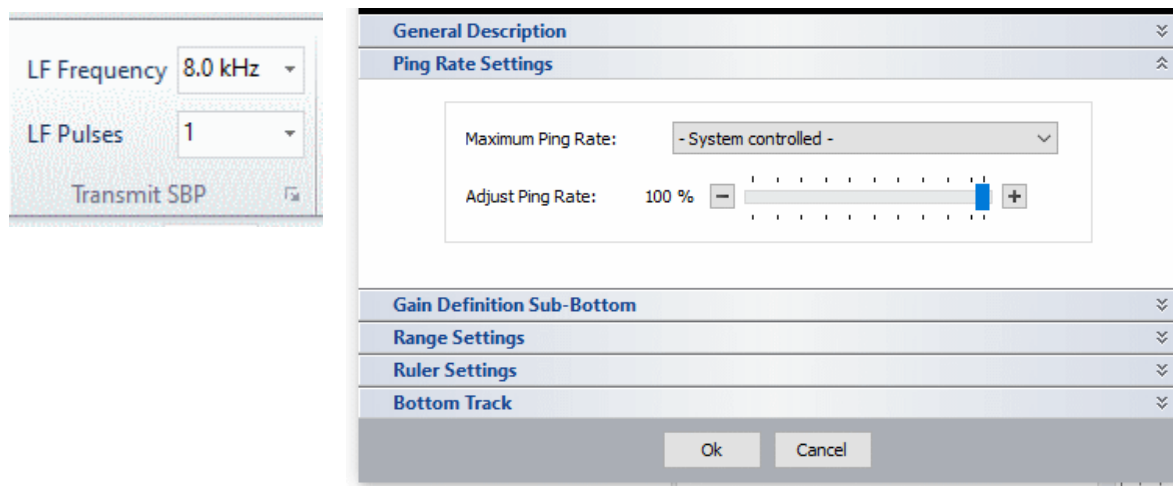

Figure 6: Setup menu, Ping Rate Settings
- **Ping rate settings:** In most cases you will allow the maximum ping rate possible by applying **-System controlled-** (Figure 6). You can reduce ping rate (for instance in shallow waters) by setting a fixed ping rate or allowing percentages of the maximum ping rate. Only LF frequency can be adjusted. Lower frequencies will achieve better penetration than higher frequencies, but at reduced resolution. Higher frequencies will achieve better resolution, but with reduced penetration. Usually, higher frequencies are used due to better efficiency and better signal to noise ratio and better resolution. A good starting point for usual survey work is 10 kHz. LF-Pulses represent the number of cycles of the LF center frequency that are transmitted. The energy of the transmitted signal is increased if the number of pulses is increased. That improves the signal-to-noise ratio but decreases the resolution.